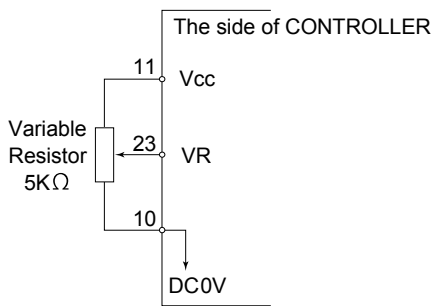
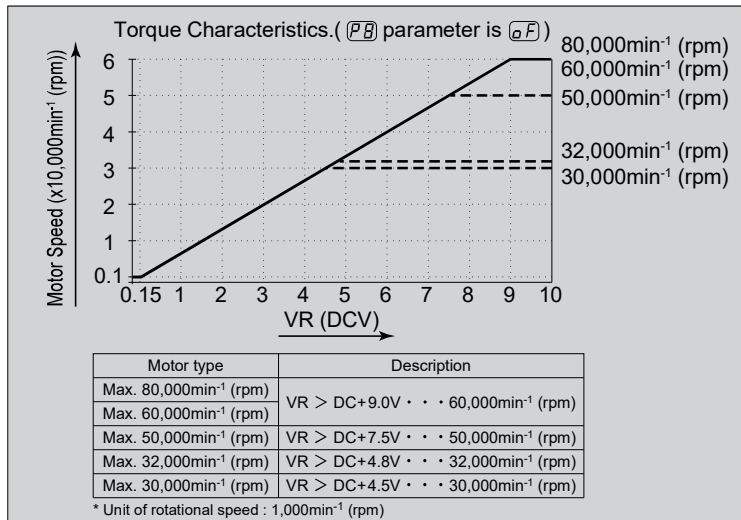

Fig. 29
Fig. 31
④ Motor Speed Control Signal
Rotation Speed can be selected by, applying analog voltage to the " Motor Speed Control Voltage (VR) ". Refer to Fig. 29, 30 for connections. Refer to Fig. 31 about relationship between Motor Speed and " Motor Speed Control Voltage (VR) ".